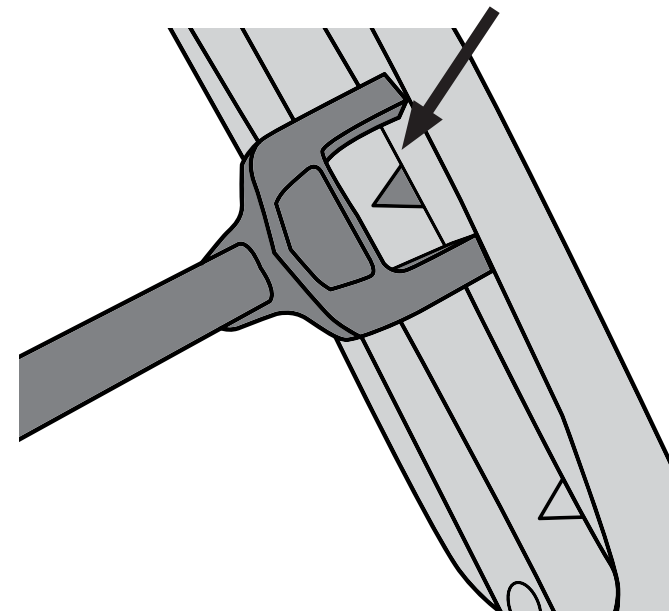

Figure 24
2. When locking in place, align the marks on the seat with one of the 3 recline positions on the frame (Figure 24).